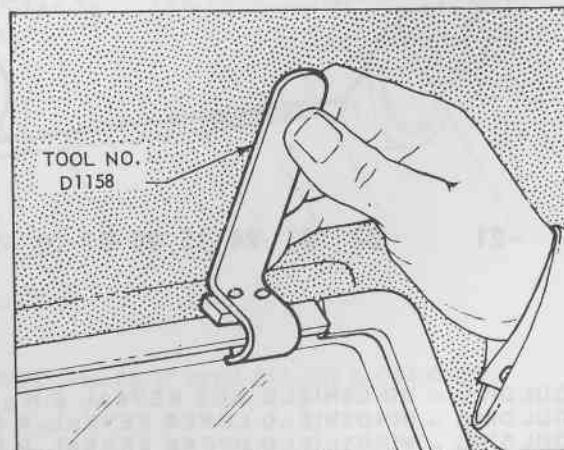

FIG. 12 - 8
1. Locate moulding removal tool No. 1A6 between moulding and glass, until point of tool engages with one of the retaining clips, then using the tool in a rocking motion (see Fig. 12 - 7) progressively disengage moulding from clips (see Section A-A, Fig. 12 - 1).
1. With door open, remove screws securing side reveal mouldings to front body pillar (see Section F-F, Fig. 12 - 1). On coupes, it is necessary to remove the upper weatherstrip and retainer (see Section G-G, Fig. 12 - 1).